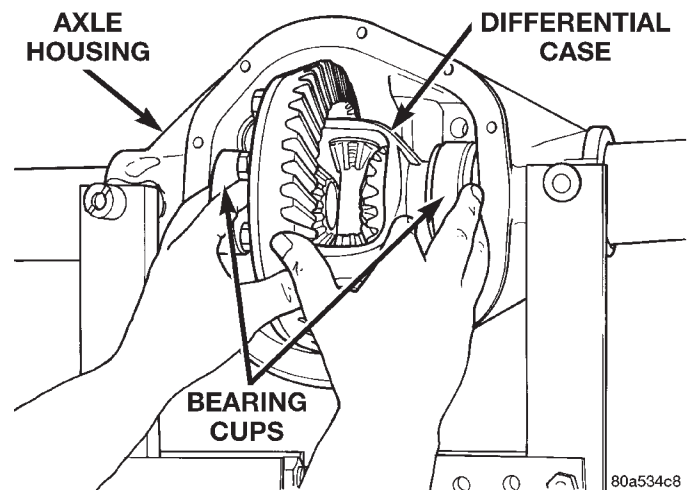
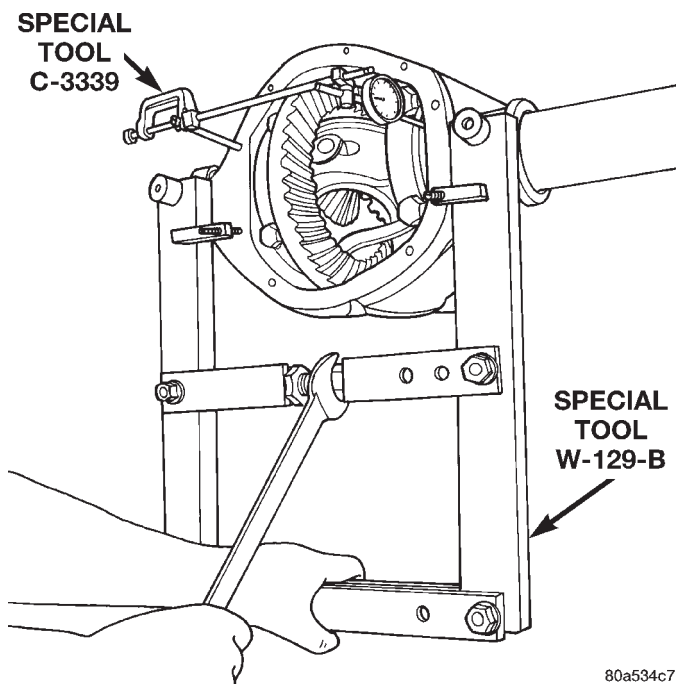
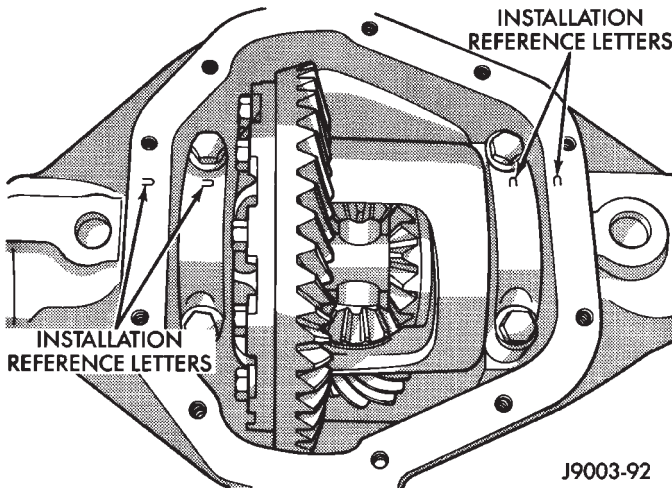

Fig. 20 Differential Case Removal
Fig. 19 Spread Axle Housing
Fig. 22 Differential Bearing Cap Reference Letters
- (9) Spread the housing enough to remove the differential case from the housing. Measure the distance with the dial indicator (Fig. 19).
- (10) Remove the dial indicator.
- (11) While holding the differential case in position, remove the differential bearing cap bolts and caps.
- (12) Remove the differential from the housing. Ensure that the differential bearing cups remain in position on the differential bearings (Fig. 20).
- (13) Mark or tag the differential bearing cups to indicate which side of the differential they were removed from.
(3) Spread the housing enough to install the case in the housing. Measure the distance with the dial indicator (Fig. 19).
(4) Remove the dial indicator.
(5) Install differential case in the housing. Ensure that the differential bearing cups remain in position on the differential bearings. Tap the differential case to ensure the bearings cups are fully seated in the housing.
(6) Install the bearing caps at their original locations (Fig. 22).
(7) Loosely install differential bearing cap bolts.
(8) Remove axle housing spreader.
(9) Tighten the bearing cap bolts to 61 N·m (45 ft. lbs.) torque.
(10) Install the hub bearings and axle shafts.